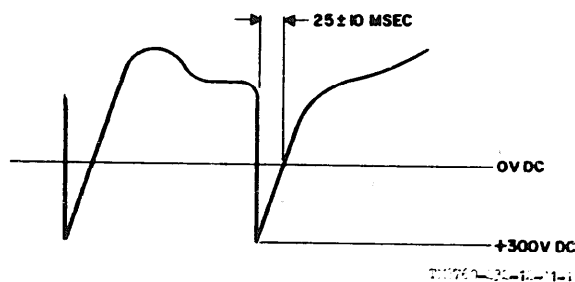

Figure 3-5.1. Channel A waveform flash pulse A or B.
(1) FLASH PULSE A and FLASH PULSE B indicators flash one every second.
(2) INPUT PULSE indicator flashes once every second.
(3) Oscilloscope channel A waveform (flash pulse A) is a -300 volts in amplitude and 25 ± 10 milliseconds wide; channel A waveform appears once every second (fig. 3-5.1).
(1) FLASH PULSE A and FLASH PULSE B indicators flash once every second.
(3) Oscilloscope channel A waveform flash pulse B) is -300 volts in amplitude and 25 ± 10 milliseconds wide: channel A waveform appears once every second (fig. 3-5.1).